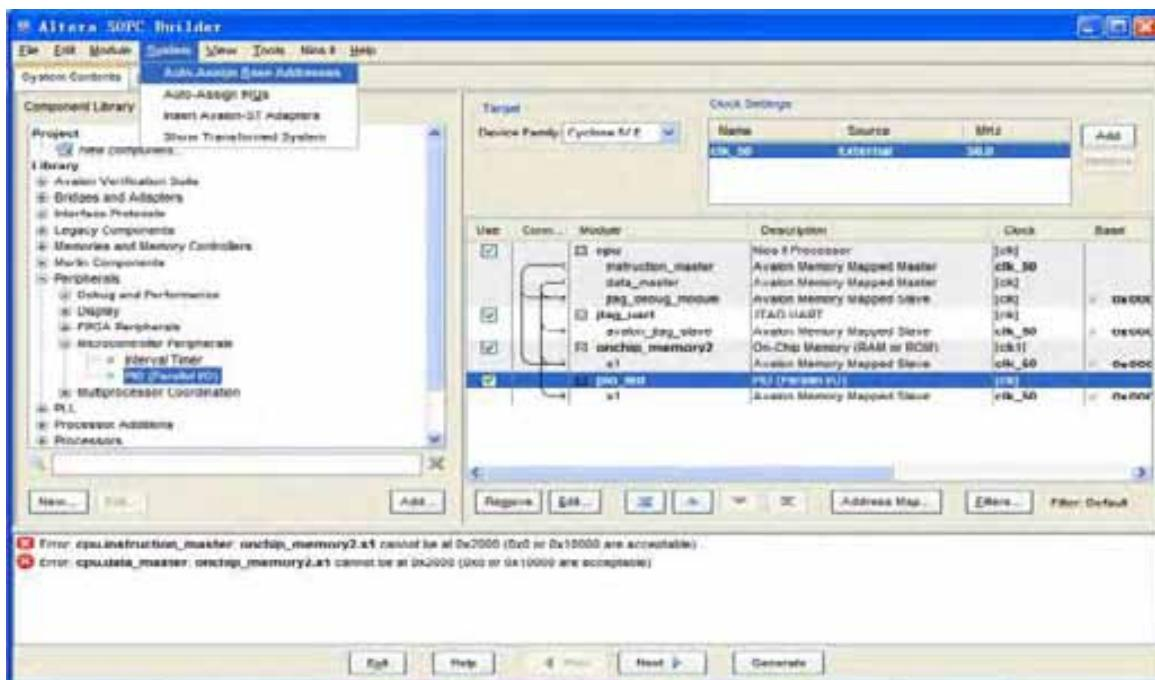
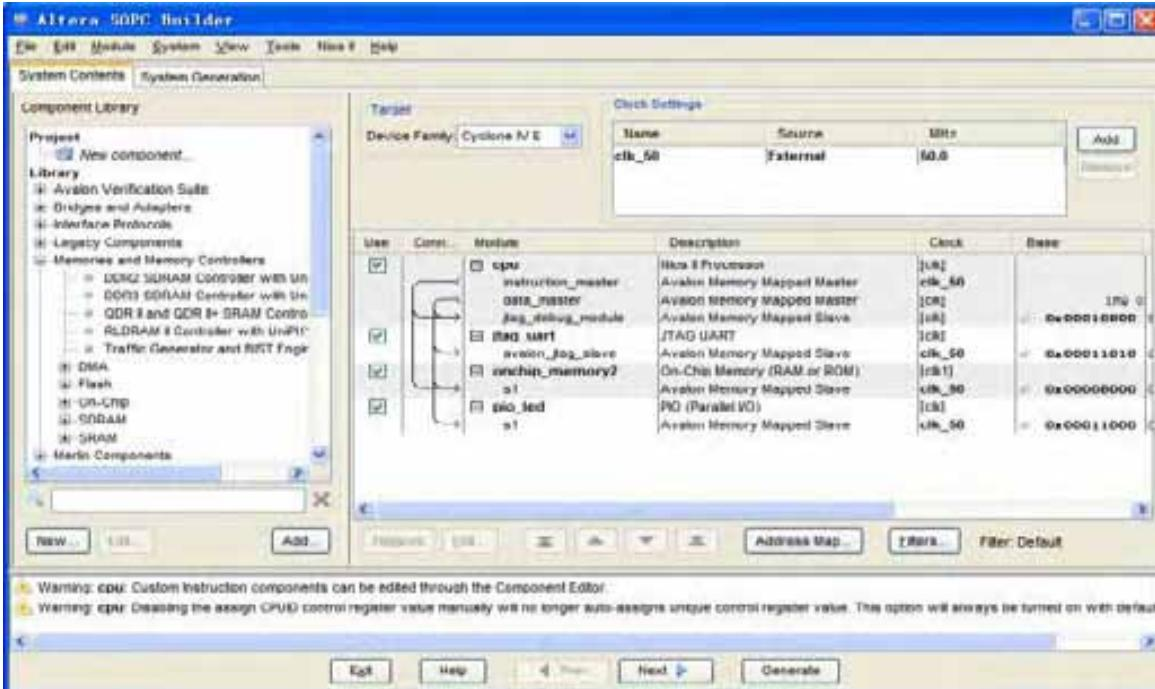

Figure 7-34 Auto-Assign Base Addresses
Figure 7-35 No errors or warnings
22. Select **System > Auto-Assign Base Addresses** as shown in Figure 7-34. Then, select **File > Refresh System**. After that you will find that there is no error in the message window as shown in Figure 7-35.